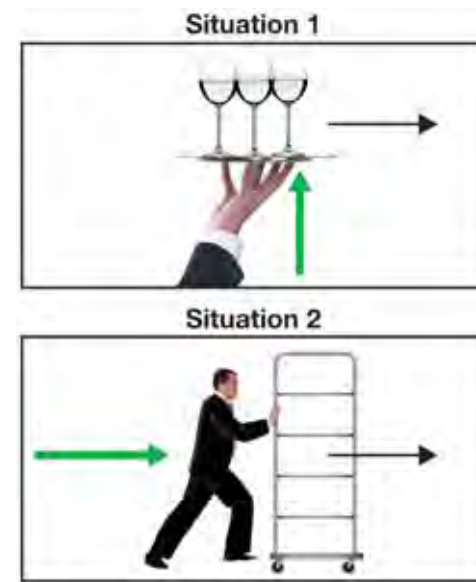

Figure 8.4: Question 5.
5. In which of these cases is a waiter doing work on the object (Figure 8.4)? Explain your answer.